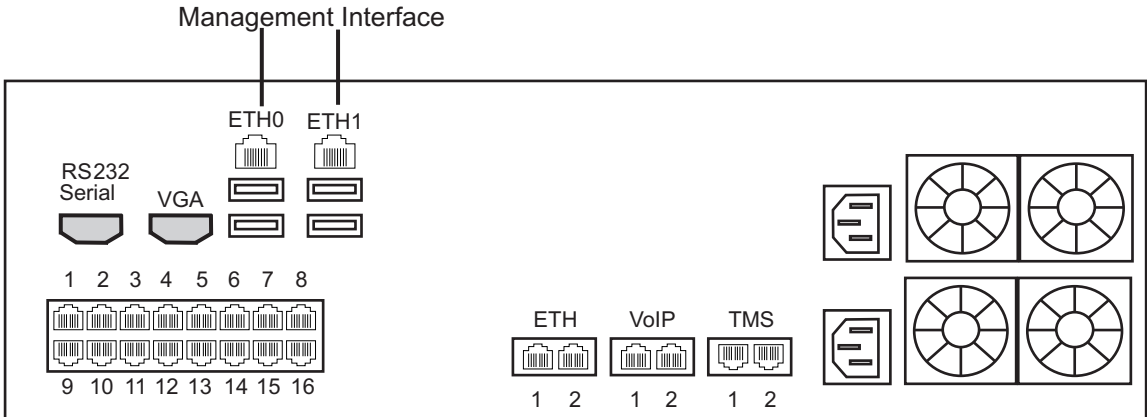

Figure 2.2 Tdev Management Interface
The TMP5900 provides a Tdev Management Interface, using one Gigabit Ethernet network link, as shown in figure 2.2 on page 9.
1. Connect the supplied CAT5 Ethernet cable to one of the upper ethernet ports located at the rear of the TMP5900, and shown in figure 2.2 on page 9.